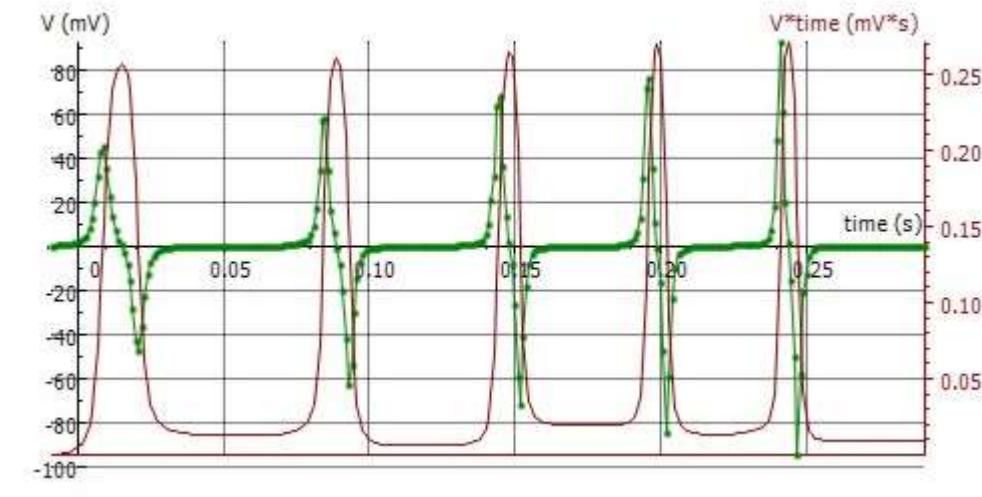

Fig. 3: Change in induced voltage U and magnetic flux Φ over time
The green curve in Fig. 3 shows the trace of how voltage changes over time.
The plot in the "Integral" window shows the variable " $V \cdot t$ " in units of " $\text{mV} \cdot \text{s}$ " (violet curve in Fig. 3). This corresponds to the magnetic flux Φ in equation (2)
The magnetic flux reaches a maximum when the induced voltage returns to zero (Fig. 3), i.e. when the magnet has reached the centre of the coil. The area of the surfaces under all the positive and negative signal peaks remains the same in absolute terms (see above). This corresponds to the maximum magnetic flux Φ of the permanent magnet inside an individual coil. The maximum magnetic flux therefore reaches the same value of $\Phi_{\text{max}} \approx 250 \mu\text{Vs}$ within the given measurement tolerances.